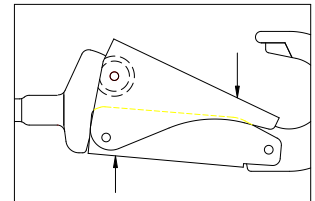

Fig. 3
- >Depress the keeper and lock mechanism simultaneously, (Fig. 3), checking for: